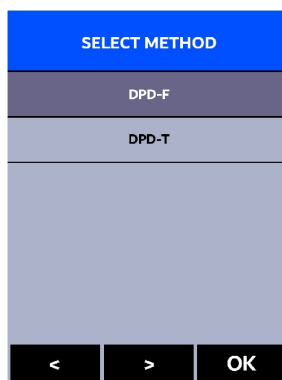

Figure 15. Select chlorine measurement method
3. Press  to launch the **SELECT METHOD** screen (Figure 15).